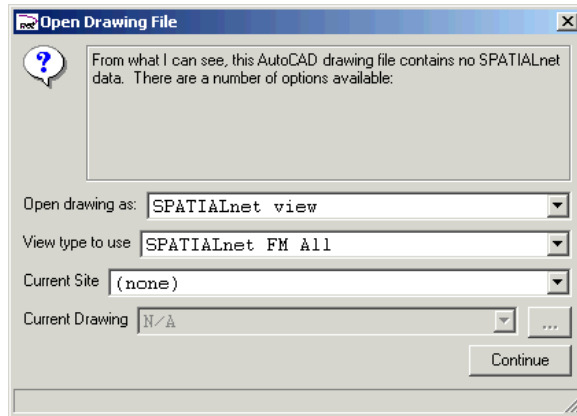

Figure 13 – SPATIALnet Open Drawing File Dialog Box
5. Select **SPATIALnet View** from the **Open Drawing as** pulldown list, make sure the other fields are filled in as shown in Figure 13 above, and click on the **Continue** button.